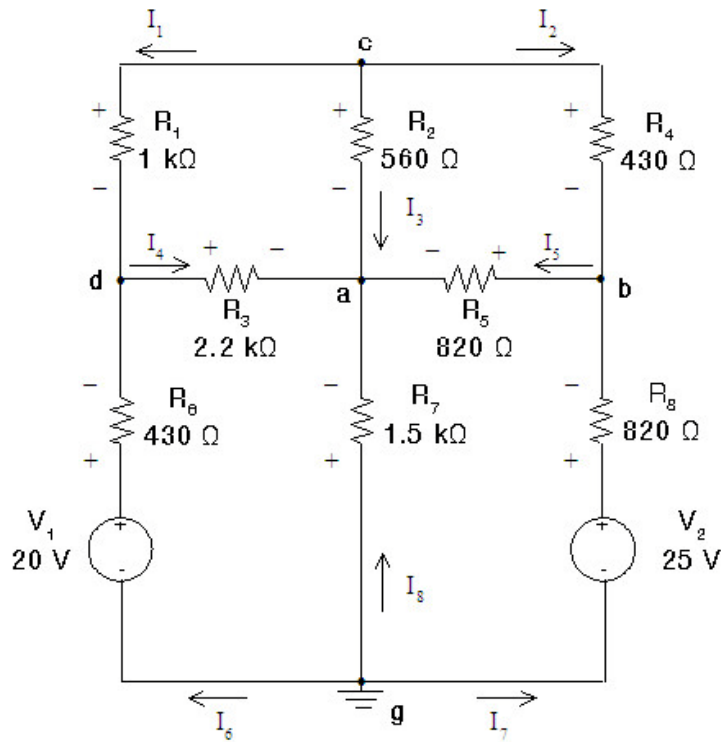

Figure 1 Circuit for Node-Voltage & Mesh-Current Methods
1. The circuit of Figure 1 contains two constant voltage sources. Solve this circuit using node-voltage method. Determine the currents through all the elements and voltages across all elements. Note carefully the direction of all currents and the polarity of all voltages. Verify that the total power developed equals the total power absorbed. Use Table 1 and Table 2 to record all your answers.
3. Solve the circuit of Figure 1 using PSpice. Use part VPRINT1 and IPRINT (Page 24 of PSpice supplement) suitably. From the output file make a record of the required voltages and currents. (Be care with polarities.)
- 1.1. Construct the circuit in Figure 1 on the breadboard provided. Turn on the power supply and use the DMM to measure the source voltages. Within the limitations of the control knobs, ensure that the voltage sources are fixed at 20 V and 25 V *after* they are connected to the circuit by adjusting the power supply if necessary.
- 1.2.** Measure the voltage across each resistor in the circuit with the polarity as indicated in Figure 1. Record these readings in Table 1.
Table 1 Verification of Kirchhoff's Voltage Law (KVL) Figure 1
- 1.3.** When you use the DMM as an ammeter, you have to disconnect some part of your circuit and connect the DMM in series with the element whose current you want to measure. Do this carefully. Before you make the connections, make sure that the power supply is turned off. Measure the current flowing in each branch of the circuit with the direction as indicated in Figure 1. Record these readings in Table 2.